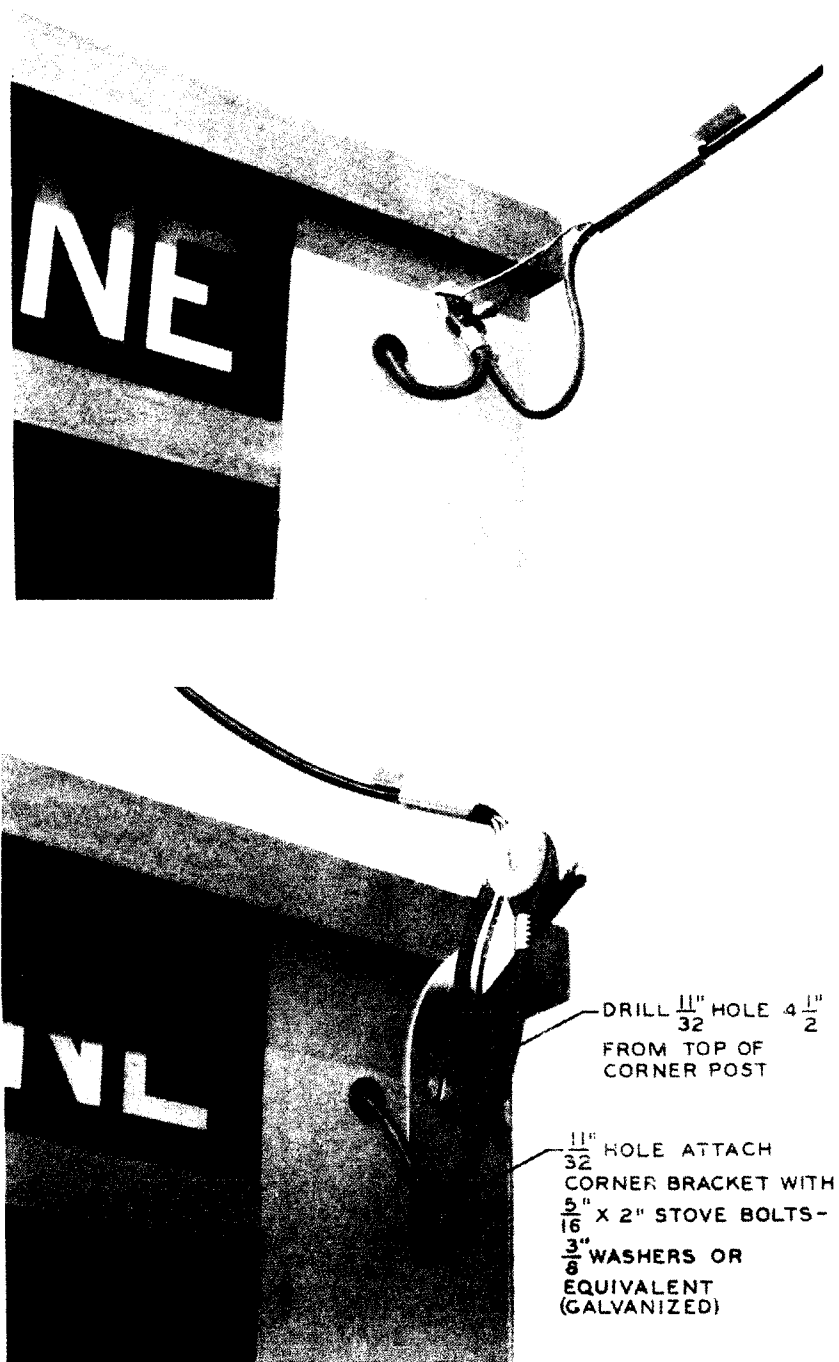

Fig. 4—Typical First Attachment
5.04 The first attachment on the booth may be a drop-wire hook or corner bracket located on the right side of the rear corner post. There is provision for the attachment using a drop-wire hook; however, if the route of the loop requires the placing of a corner bracket, holes must be drilled for fasteners (see Fig. 4). The roof is secured by four wing nuts that should be finger tight and may be removed to facilitate booth wiring.